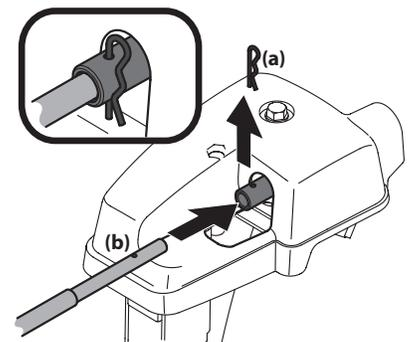

Figure 2-37
- Remove hairpin clip (a) from rear of chute control assembly. See Figure 2-37.
5. Insert flex shaft (b) removed during Handle Assembly from lower handle into rear of chute directional control head. See Figure 2-37. Secure flex shaft to chute control head with hairpin clip (a) removed in Step 4.